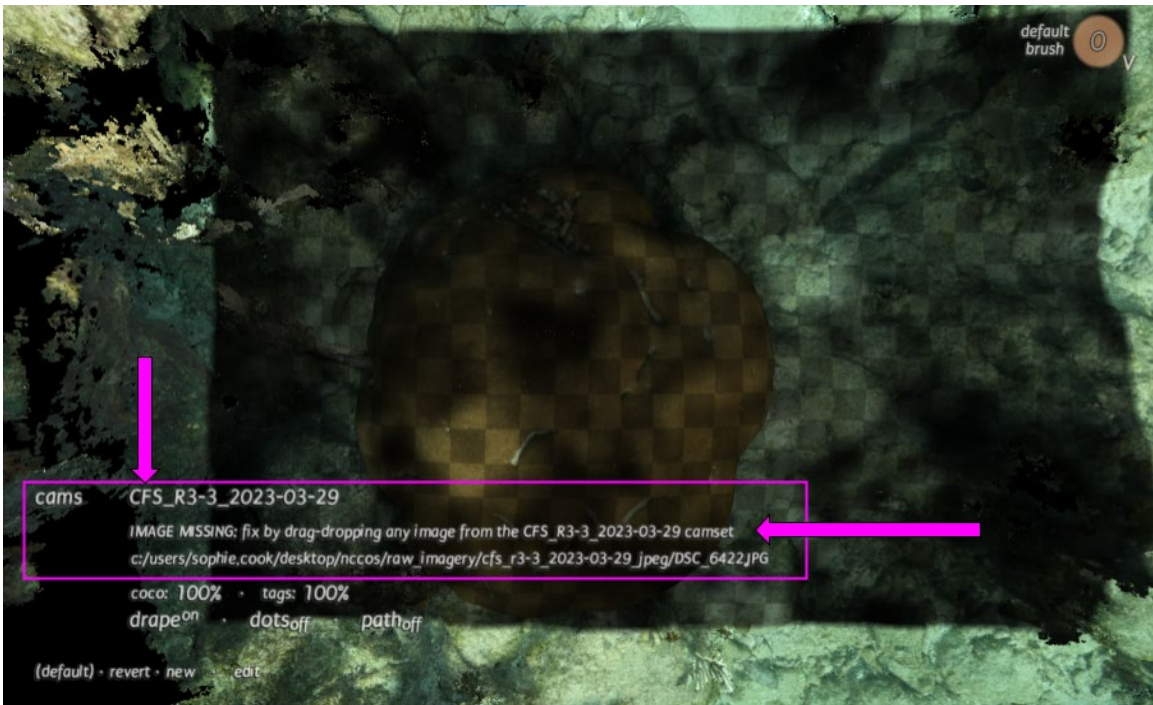

Figure 64. Checkerboard will appear if raw images are not linked. Note the `IMAGE MISSING` message in the Cams menu.
2. Double center-click with the mouse on any location within the model. A black checkerboard will appear along with text indicating that the image is missing under the Cams menu (Figure 64).